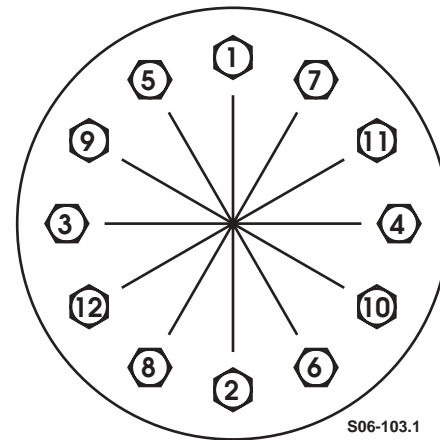

Figure 6-20: Wheel Half LockNut Tightening Sequence
4. Tighten locknuts to 85 lb-ft (115 N•m) in sequence shown (Figure 6-20).